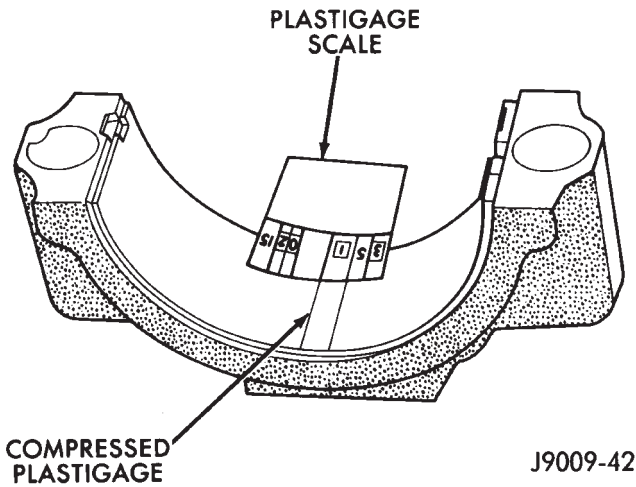

Fig. 17 Measuring Bearing Clearance with Plastigage
- (5) Install the lower bearing insert in the bearing cap. The lower insert must be dry. Place strip of Plastigage across full width of the lower insert at the center of bearing cap. Plastigage must not crumble in use. If brittle, obtain fresh stock.
- (6) Install bearing cap and connecting rod on the journal and tighten nuts to 45 N·m (33 ft. lbs.) torque. DO NOT rotate crankshaft. Plastigage will smear, resulting in inaccurate indication.
- (7) Remove the bearing cap and determine amount of bearing-to-journal clearance by measuring the width of compressed Plastigage (Fig. 17). Refer to Engine Specifications for the proper clearance. **Plastigage should indicate the same clearance across the entire width of the insert. If the clearance varies, it may be caused by either a tapered journal, bent con-**